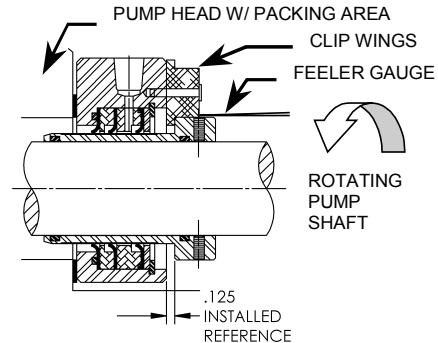

Figure 1
1. Clean shaft (13) and the face of the inboard head (20) in and around the packing area (stuffing box).
2. Check shaft (13) for sharp corners, burrs, nicks or other imperfections. Use a file or sandpaper to remove any burrs or raised surface. Also, file sharp edges to prevent cutting O-ring. Keyways should be covered or filled with a suitable filler to protect the O-rings from damage during installation.
5. Be sure to place the gasket (222) between the cartridge seal (223) & inboard head (20), then ease the cartridge seal over the shaft (13) up to the face of the inboard head.
6. Use flat washers (234) under the gland capscrews (233) and lightly snug the cartridge seal & gasket to the face of the inboard head (20) at the packing area (stuffing box).
7. Insure that the sleeve/drive collar (221) is pressed forward and nested against the clip wings. (See Figure 1)
10. Insure that the clip wings are at 90° to the shaft and while rotating the shaft (by hand) insure that the drive collar is not rubbing or binding against one or two of the centering clips more than the rest. Use .001" or .002" (.03-.05 mm) feeler gauge and test the gap between the clips and drive collar. (See Figure 1).